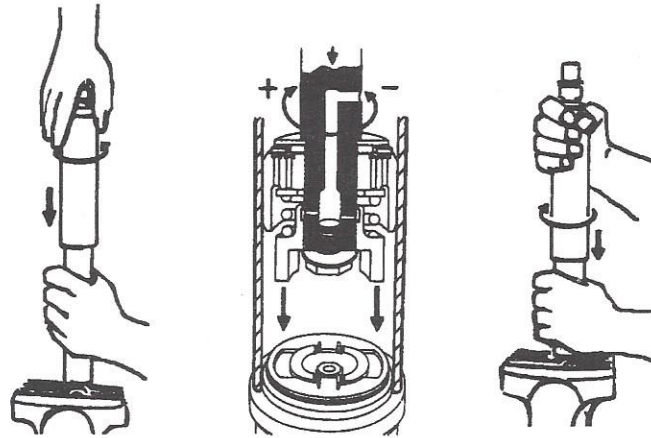

Figure 3.3 Shock Absorber Adjustment
- Place the shock vertically with the lower pin in a vise. Use clamp plates to avoid damage to the shock absorber (Figure 3.3).
- Keeping the shock absorber closed, make two (2) half turns (a total of 360°) to the right (clockwise). If you found prior adjustment in Step 4 above, add the number of half turns found. The total range is approximately five (5) half turns.
2. Install the two new rubber bushings on the upper mounting stud. Then position the shock absorber over the bushings and install the flat washer and slotted nut on the upper mounting stud to hold the shock absorber in place (Figure 3.3).